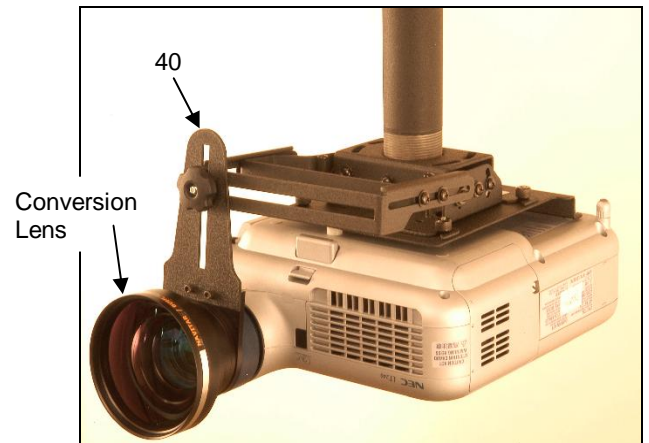

Figure 9. Install Conversion Lens
3. With an assistant, install your projector back on the ceiling mount at this time. Secure all thumbnuts and audio/video cables. Do not restore power to the projector at this time. See Figure 9.
4. Install the conversion lens at this time. Screw the lens into the lens plate that is attached to the front plate (40). See Figure 9.